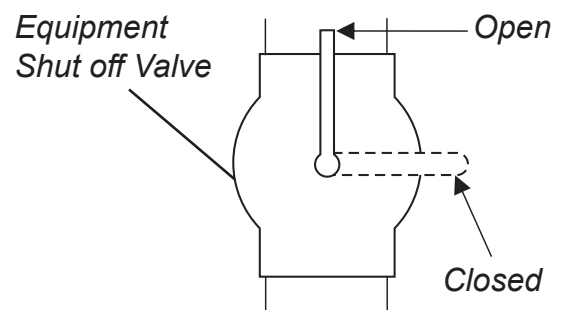

Fig. 13: Equipment Shutoff Valve
1. Open equipment shutoff valve (see Fig. 13).